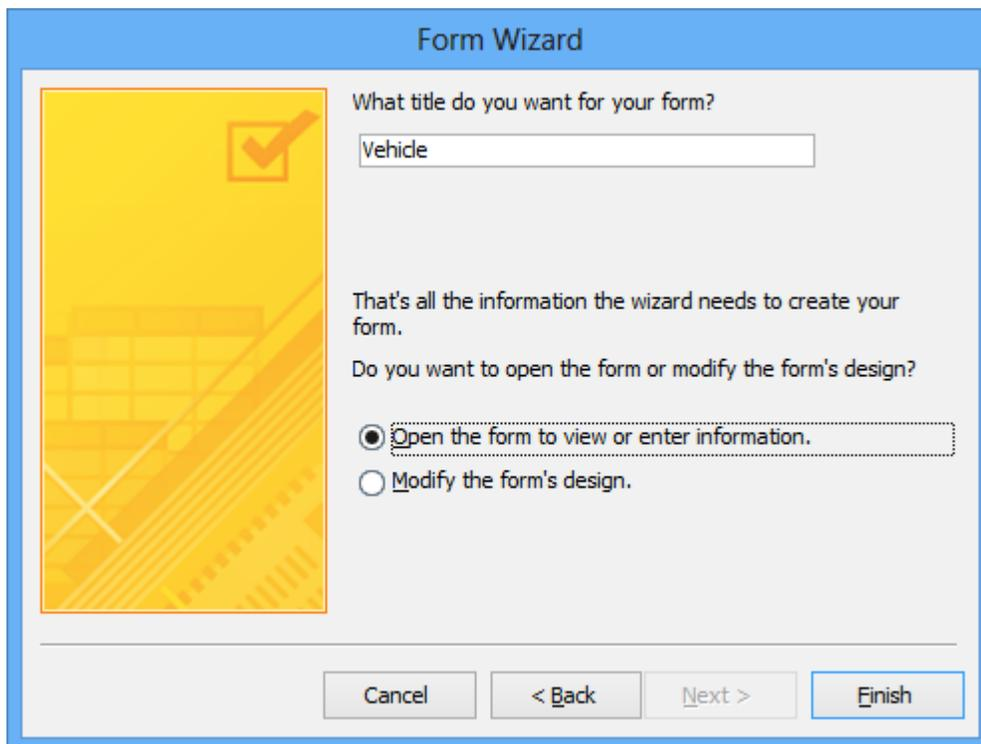

Figure 7: Final Wizard Window
12. Finish the Form Wizard: In the final wizard window (Figure 7), name the form *Vehicle*. Below you are asked if you want to open the form or modify its design. Choose the first option, “Open the form to view or enter information,” and click **Finish**. The completed form appears in Figure 8.